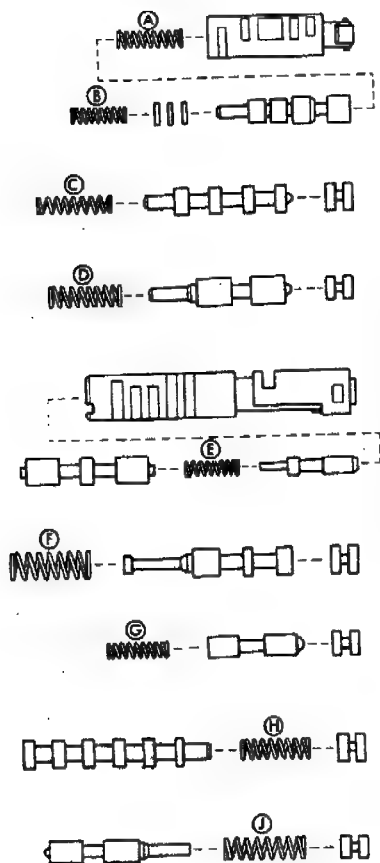

**Fig. 12 Removing/Installing 2-3 Shift Valve**
(4) Install 2-3 shift valve, spring and plug in valve bore. Press plug inward and install retainer (Fig. 12).